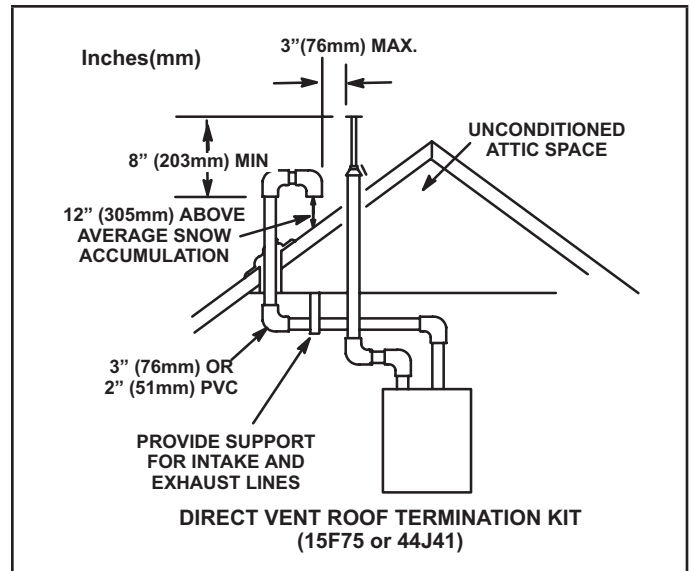

Figure 33
Intake and exhaust pipes may be routed either horizontally through an outside wall or vertically through the roof. In attic or closet installations, vertical termination through the roof is preferred. Figure 33 through Figure 40 show typical terminations.
- 3 - On roof terminations, the intake piping should terminate straight down using two 90° elbows (See Figure 33).